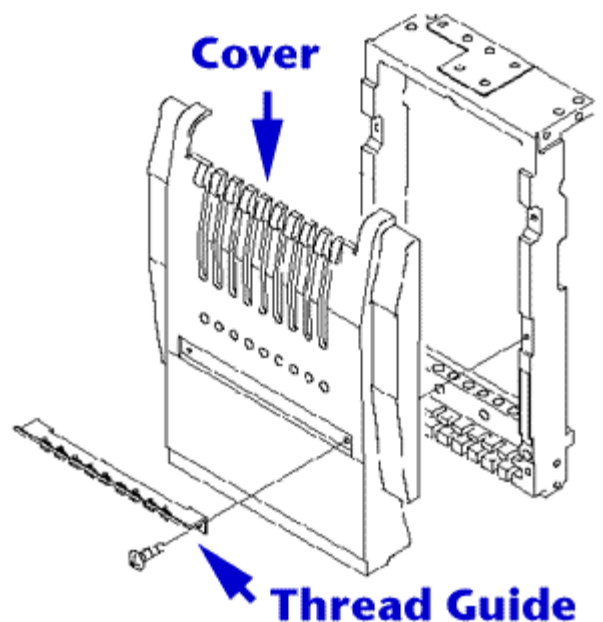

Fig. 2: Remove Cover
6. Using a Philips head screwdriver, remove thread guide and cover from front of sewing head. See figure 2